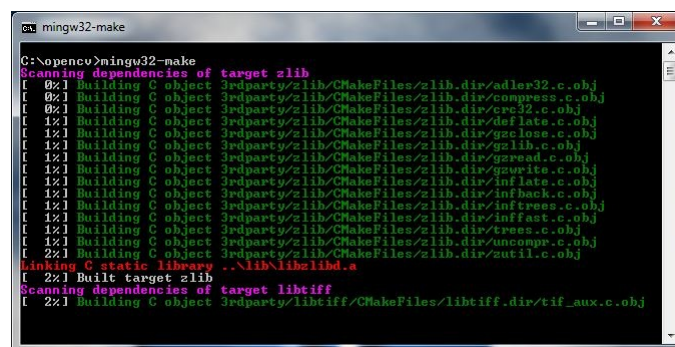

Figure 4-31. Long OpenCV Build Process
21. Depending on your system specifications, this process could take from 1 hour to 6 hours. Allow the build to complete normally, as shown in Figure 4-31.